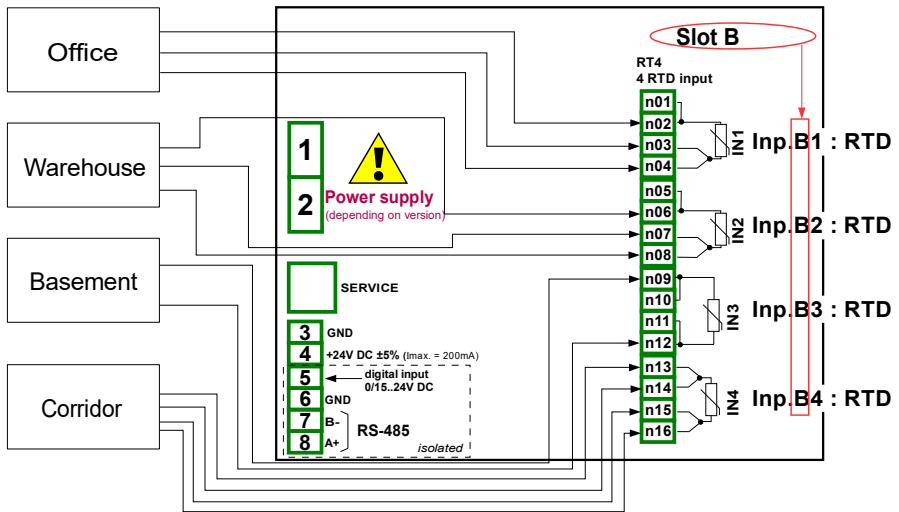

Fig. 7.71. Schematic diagram for the RT4 module
Before measuring the temperature the user should configure the device and then connect the sensors as shown in **Fig. 7.71**.
- **Source** parameter set as **Inp. B1 : RTD** (see the connection in Fig. 7.71),